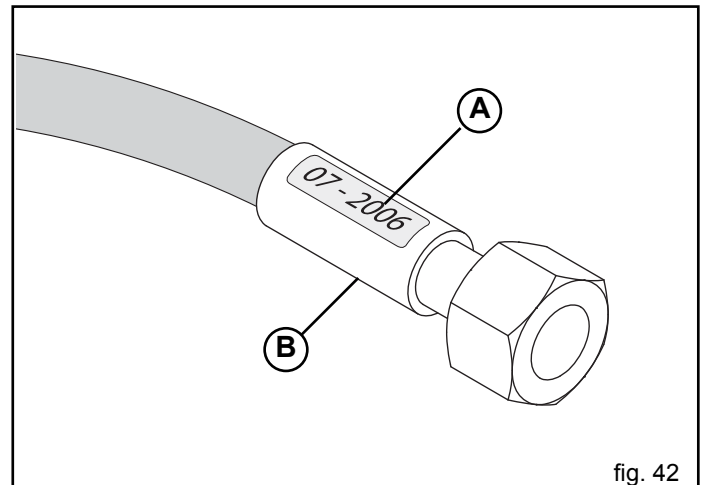

fig. 42
- when leaks are identified near the pipe sheath (B, Fig. 42);
- when the sheath is corroded (B, Fig. 42);
- 5 years after their manufacture (A, Fig. 42).